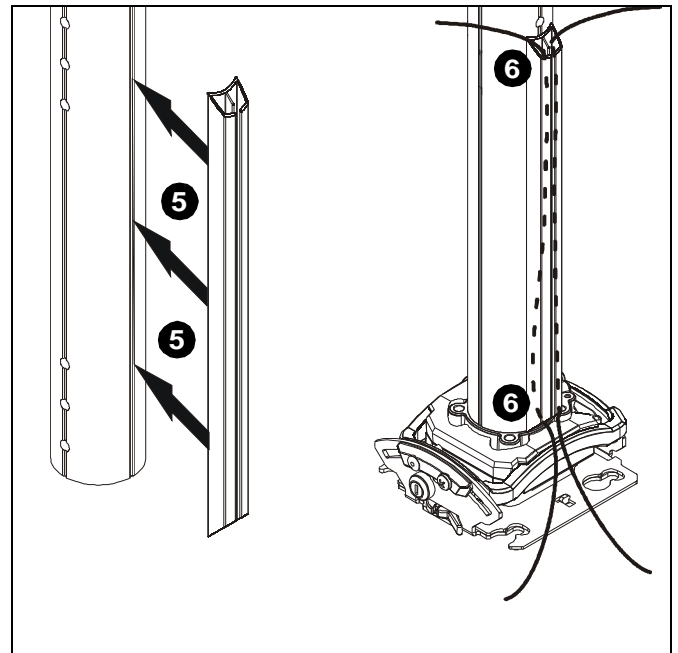

Figure 1
3. Install and secure mount (not included) to lower end of extension column (A) following instructions included with mount.
4. Remove adhesive from back of cable cover (B).
5. Place cable cover (B) onto column (A) at desired location. (See Figure 1)
6. Route cables as desired through cover (B). (See Figure 1)